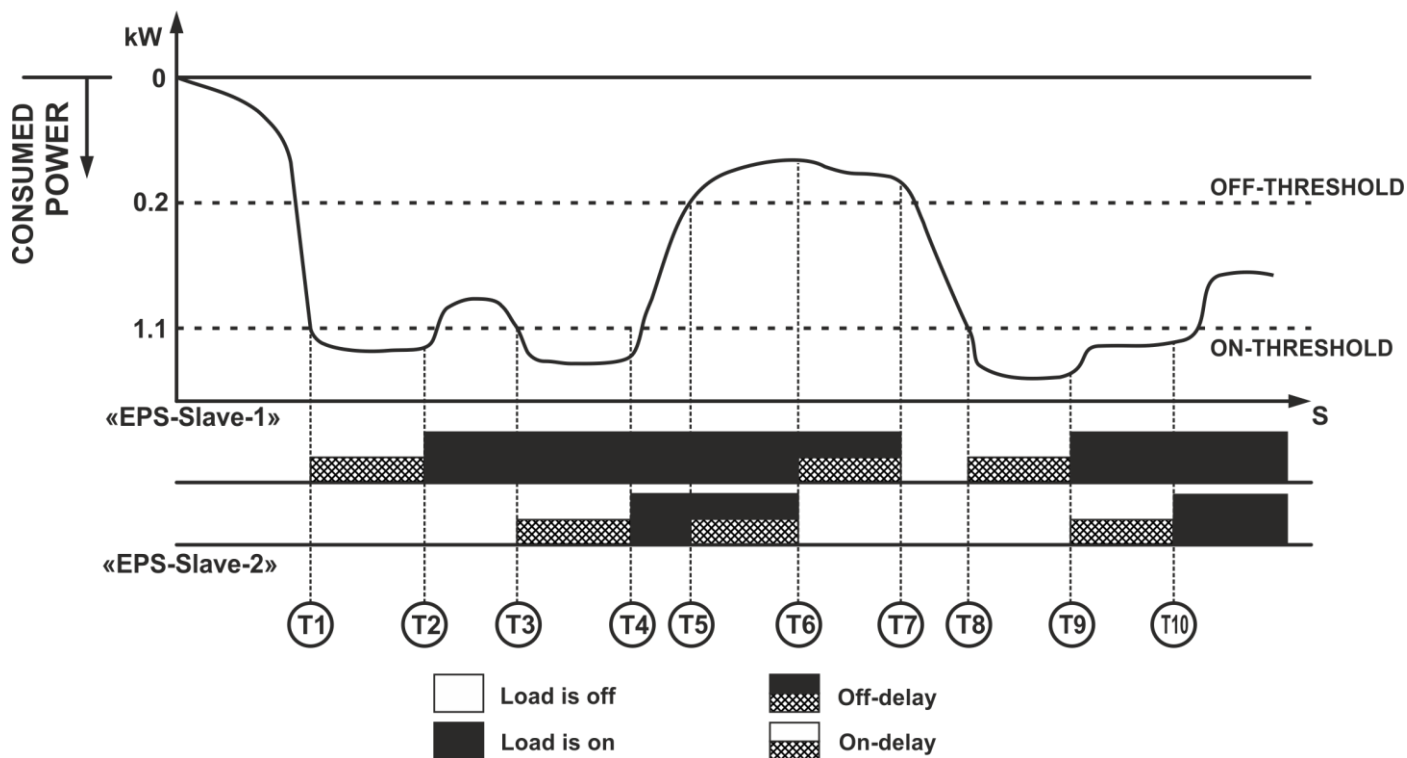

Fig. 17 – Operation in the power limiting relay mode with inversion
- 60 s time starts counting (parameter «On-delay», time T1 or T8 – Fig. 17);